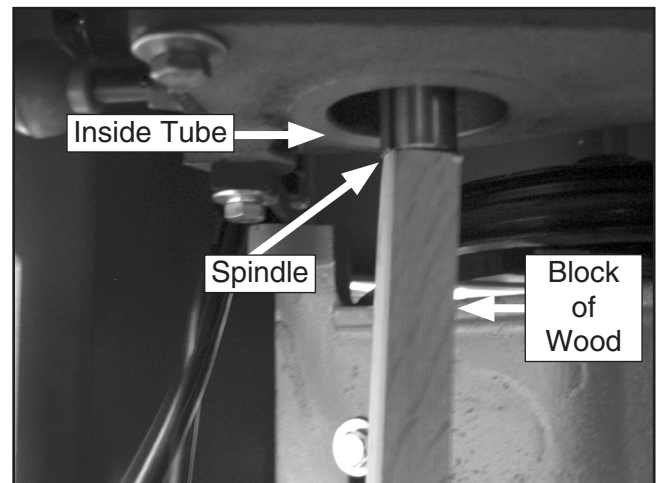

Figure 8. Removing the spindle.
11. Place a 22" block of wood under the spindle, as shown in **Figure 8**. Lower the spindle by turning the elevation handle until the spindle can be removed from the top of the inside tube.